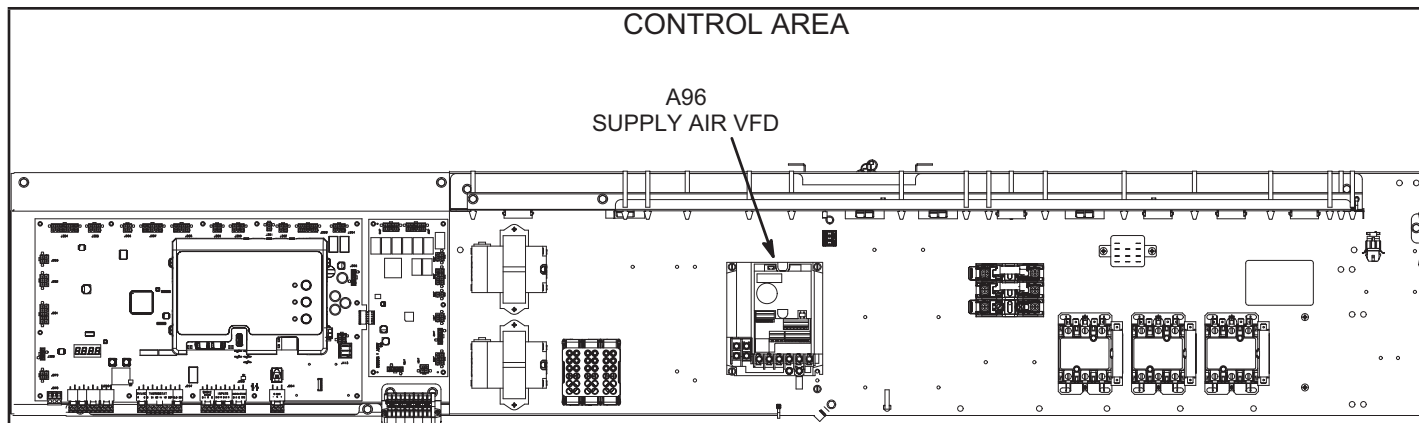

FIGURE 39
The supply air VFD (A96) is located in the control area. See FIGURE 39.
- 4 - Locate the A55 Unit Controller. Refer to FIGURE 39.